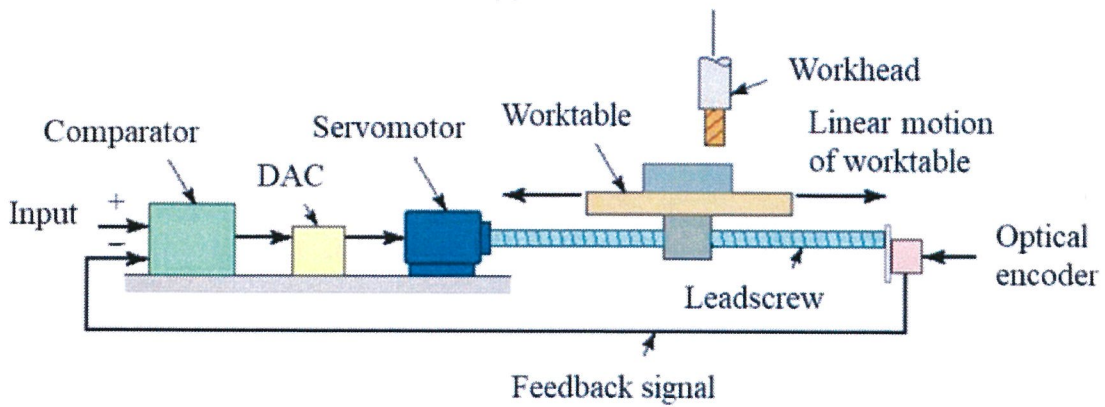

Figure Q3
- Q3** (a) A Numerical Control (NC) worktable operates by closed-loop positioning as shown in **Figure Q3**. The lead screw has a pitch of 35 mm and is coupled to the motor shaft with a gear ratio of 15:1 (15 turns of drive motor for each turn of the screw). An incremental optical encoder generates 1000 pulses/rev of its output shaft. Determine: